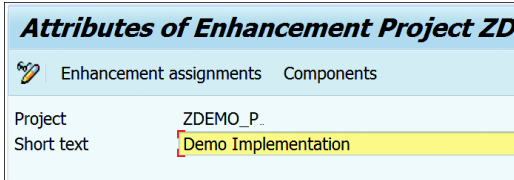

Figure 20.19 Project Attributes
3. To assign an enhancement, click the **ENHANCEMENT ASSIGNMENTS** button (see Figure 20.19).